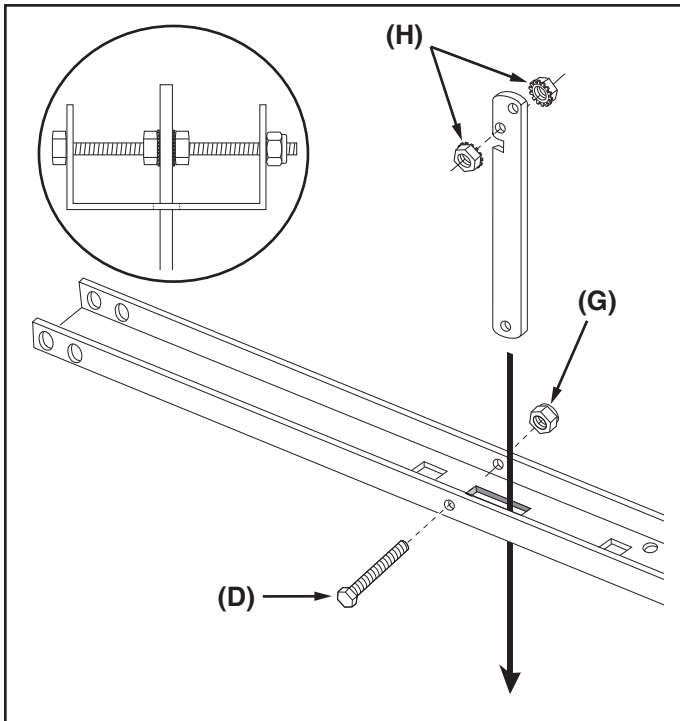

FIGURE 1
- (2) 9/16" Wrenches
STEP 1: (SEE FIGURE 1)
- Place the latch lock lever through the slot in the tongue. Assemble the hex bolt (D) through the tongue, the lever, and two hex nuts (H) placed on each side of the lever. Assemble the hex nut (G) onto the end of the hex bolt (D) and **tighten** so that the hex bolt (D) can still rotate freely. **Tighten** the two hex nuts (H) against each side of the lever so that the lever is centered in the slot.